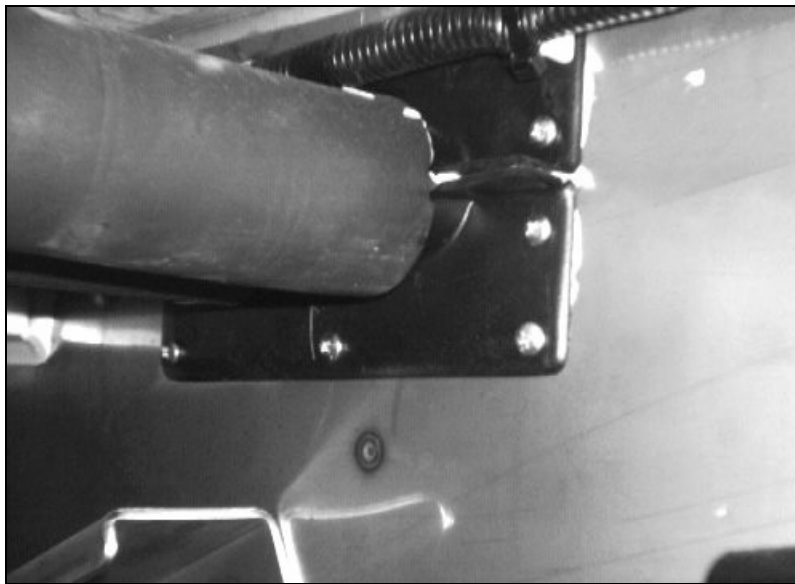

FIGURE 2: PLASTIC BRACKETS (TYPICAL INSTALLATION)
2. Take out screws from plastic brackets then remove brackets (refer to fig. 2). Set screws aside.